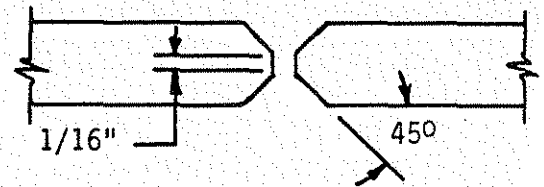
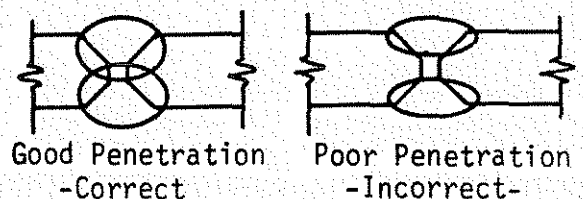

Figure 4
Figure 5
3. Grind ends as shown in Figure 4 so that full penetration can be made as shown in Figure 5-A.